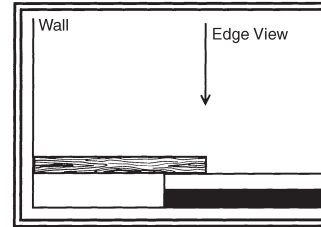

Fig. 36
- Place a loose plank directly over the top of the last full plank, making sure all edges are lined up. Use a whole plank as a measuring device. Position one edge against the wall and mark the loose plank with a pencil along the opposite edge (Fig. 36).